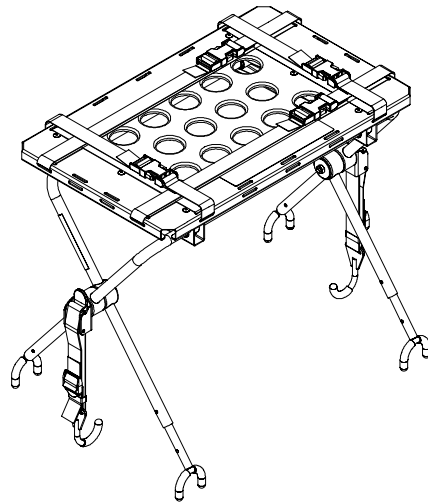

Figure 25 – Open defibrillator platform legs
2. Open and expand the defibrillator platform legs (Figure 25).